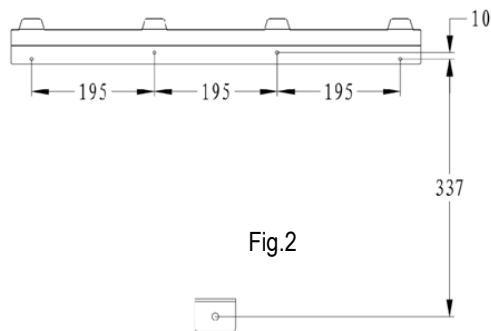

Fig.2
- Use the two marked center holes of the top mounting bracket (A) to measure (Fig.2).